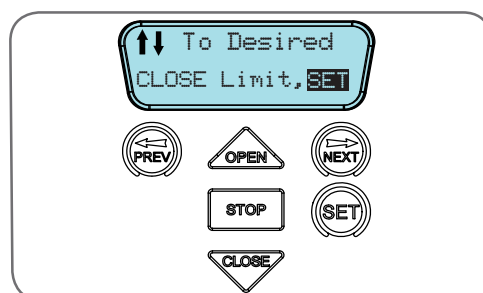

fig 13
- d. After a short delay the MAIN SCREEN (**Fig. 13**) will be displayed. If this is the first time the GDO-10 is being used the MAIN SCREEN should enter into limit set mode and blue close led will be flashing. If the display shows that an input is active then rectify the situation before continuing with the procedure for setting the travel limits. Press and hold the CLOSE button - the door should start closing.